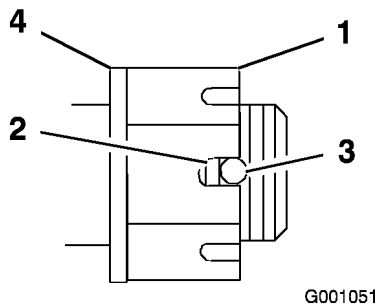

Figure 3
16. Torque the slotted nut to 125 ft-lb (170 N·m) (Figure 3).
17. Check the distance from bottom of slot in nut to inside edge of hole. Two threads or less should be showing (Figure 3).
19. Tighten the nut until the next set of slots line up with the hole in the shaft (Figure 3).